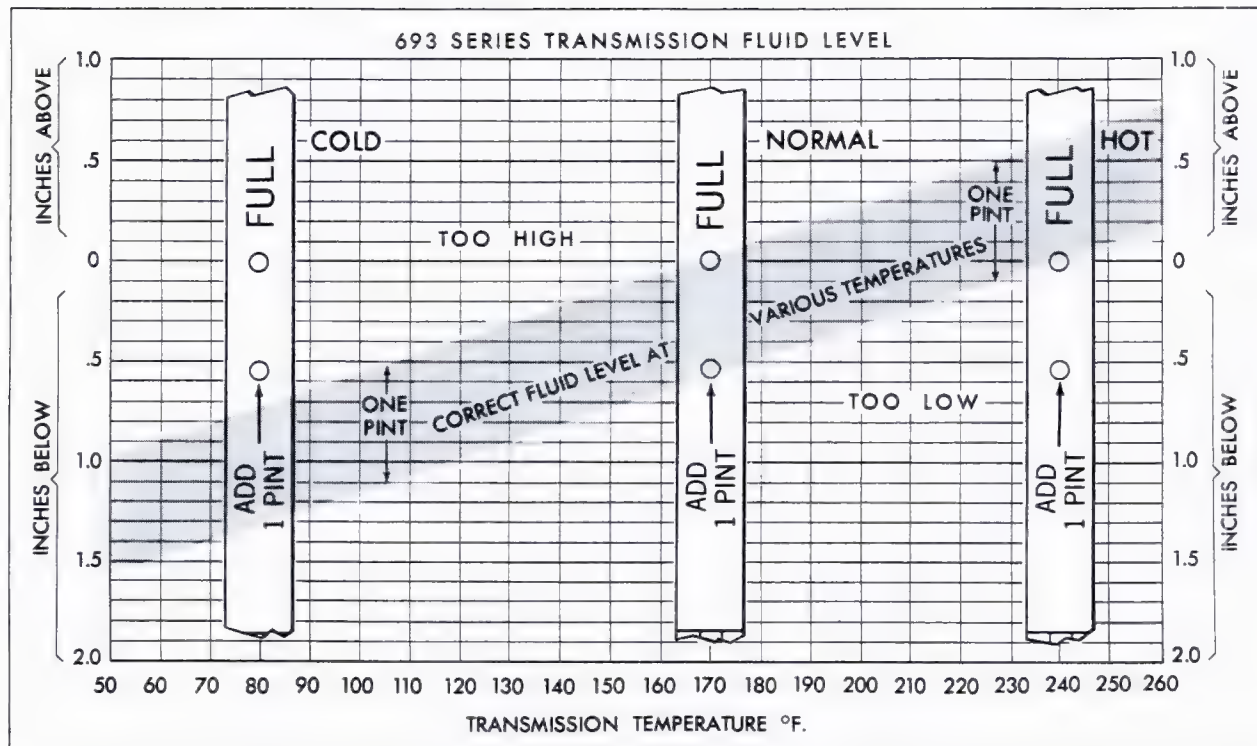

Fig. 7-147 Transmission Oil Level (693 Only)
The bottom pan should be drained every 24,000 miles or 2 years, whichever occurs first, and fresh fluid added to obtain the proper level on the dipstick Fig. 7-147. For cars subjected to heavy city traffic during hot weather, or in commercial use, when the engine is regularly idled for prolonged periods, the bottom pan should be drained every 12,000 miles.
pint difference. Correct fluid level is determined at normal operating temperature (180°F - 190°F). Careful attention to transmission oil temperature is necessary, as proper fluid level at low operating temperatures will be below the "ADD" mark on the dipstick, Fig. 7-147, and proper fluid level at higher operating temperatures will rise above the full "F" mark. Fluid level must always be checked with car on level surface, and with engine running to make certain converter is full. To determine proper fluid level, see Note 7b for procedure.
10. Reduce engine speed to slow idle and check fluid level. Add fluid to bring to proper level, Fig. 7-147.
4. Check fluid level and add additional fluid to bring to proper level, Fig. 7-147.